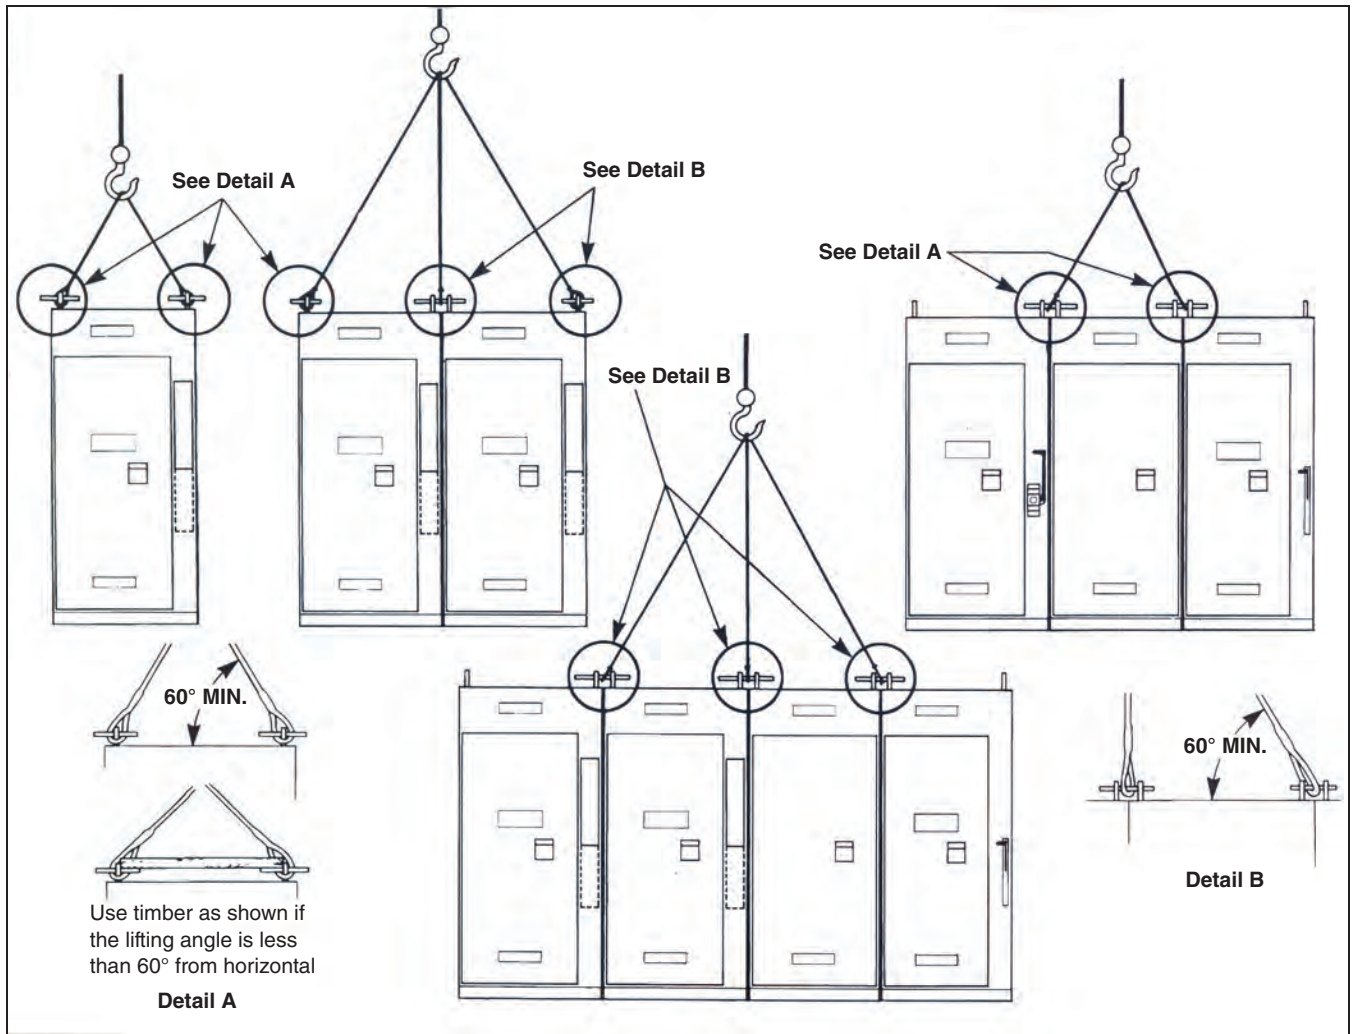

Figure 2. Hoist-sling arrangements and door-latching-mechanism references for S&C Custom Metal-Enclosed Switchgear.
- STEP 1.** Arrange the lifting slings to distribute the lifting forces equally on all eyebolts. See Figure 2.
- STEP 2.** Do not apply lifting force to any eyebolts at an angle less than 60° from the horizontal. See Detail A, Figure 2.
- STEP 3.** If it is not possible to adhere to Step 2, wedge a timber between the eyebolts or slings as shown in Detail A, Figure 2.